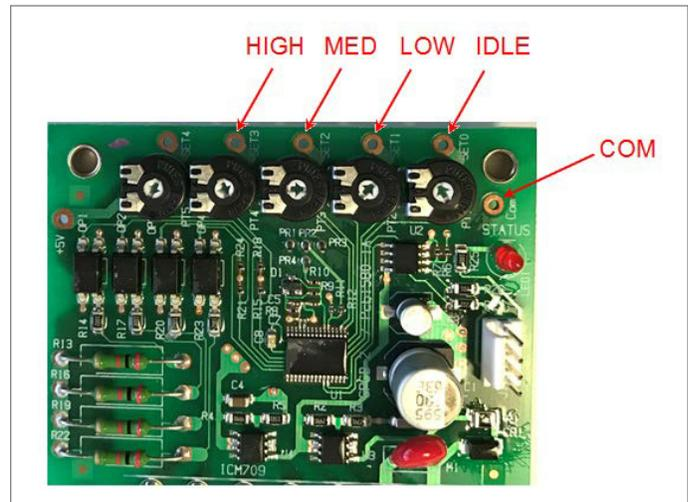

FIGURE 3 - Select PWM Test Points (front)
3. Measure the DC voltage between test points SETx and COM. (see Figures 3 and 4 for location of test points depending on front or back view).